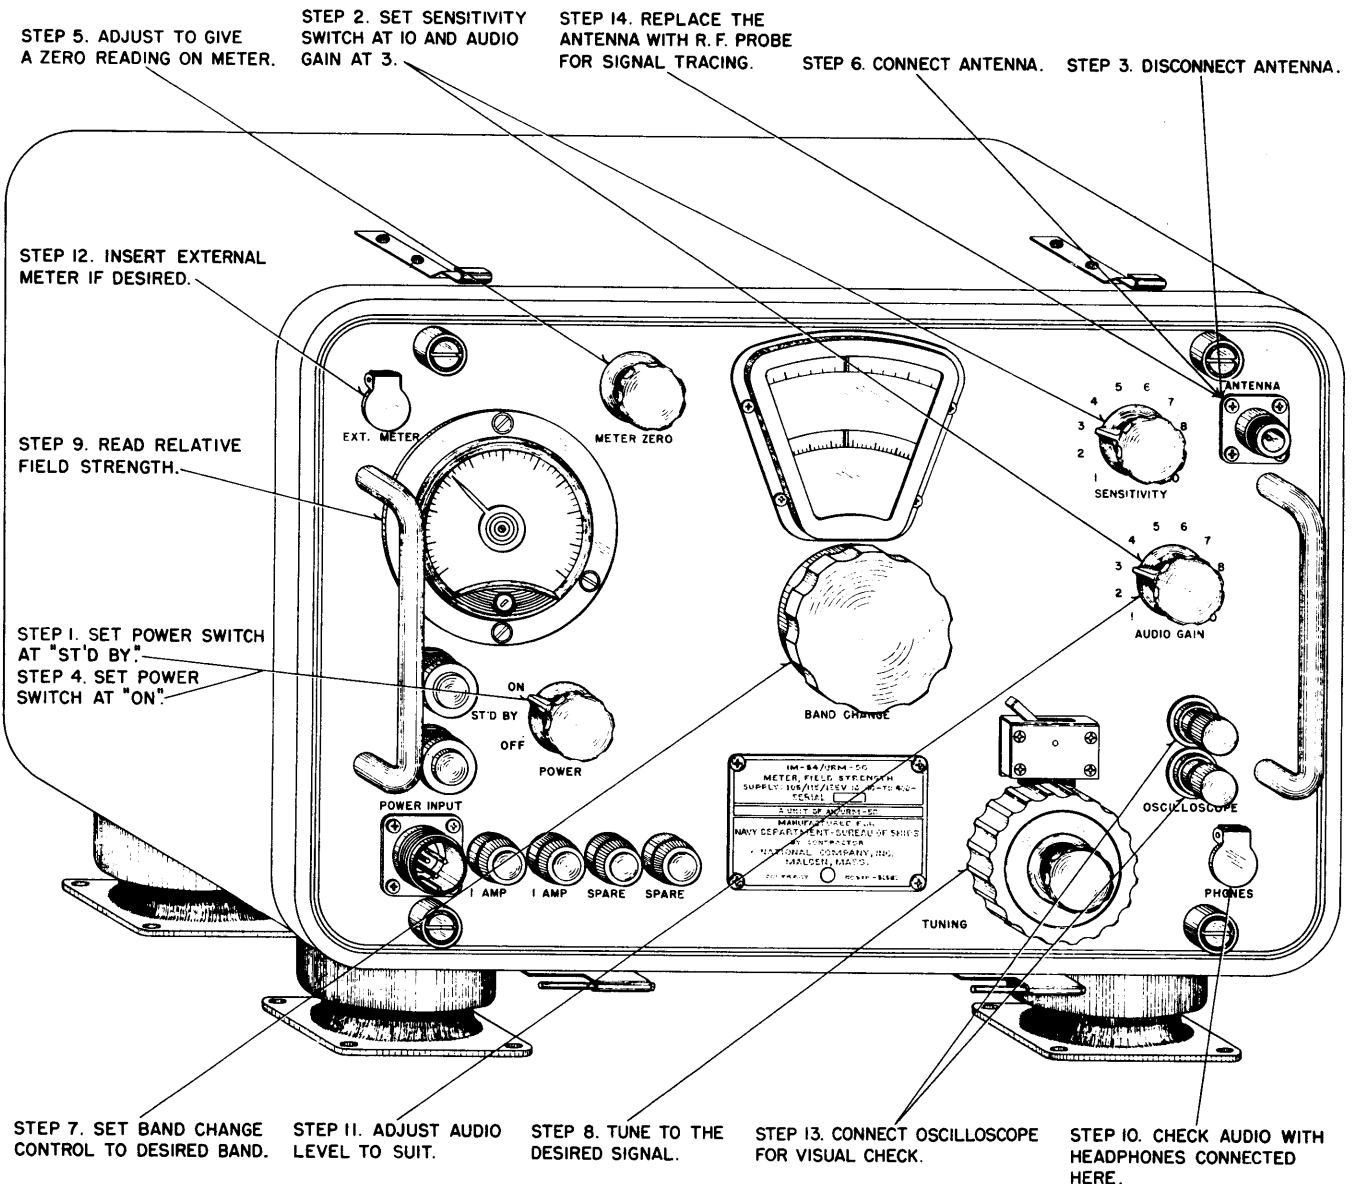

Figure 4-2. Operating Instructions, Field Strength Meter IM-84/URM-50
a. **OPERATING THE FIELD STRENGTH METER AS A MONITOR.**—The following instructions are visually shown in brief on Figure 4-2.